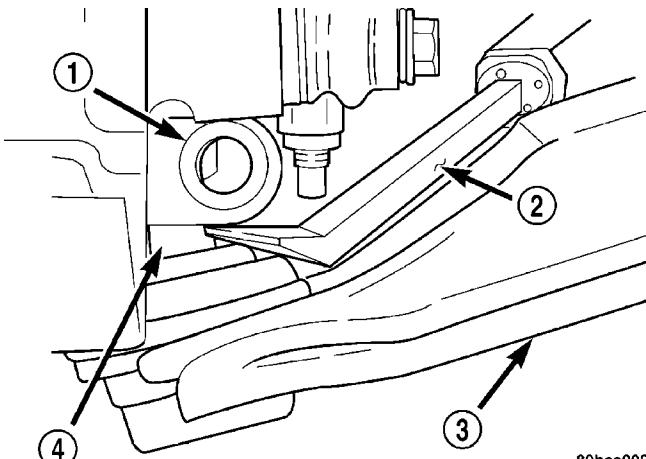

Fig. 15 Separating Lower Control Arm from Steering Knuckle
(8) Separate ball joint stud from steering knuckle by prying down on lower control arm (Fig. 15).